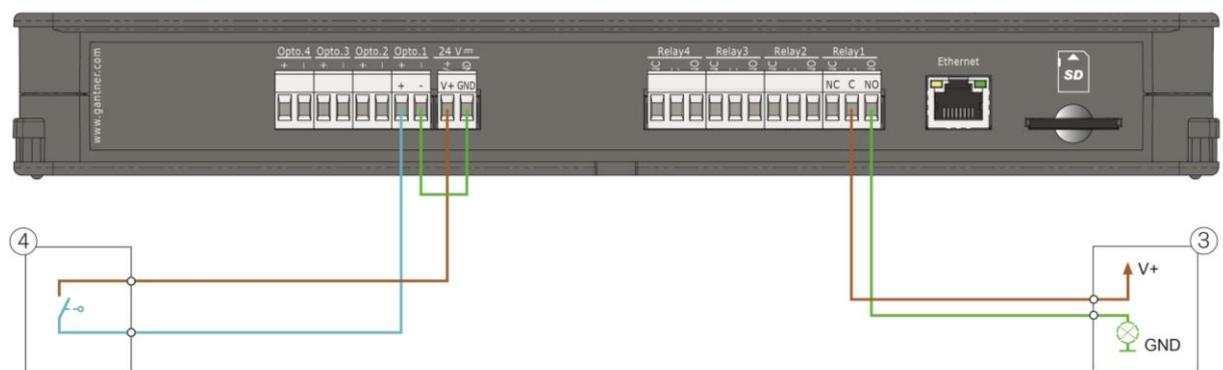
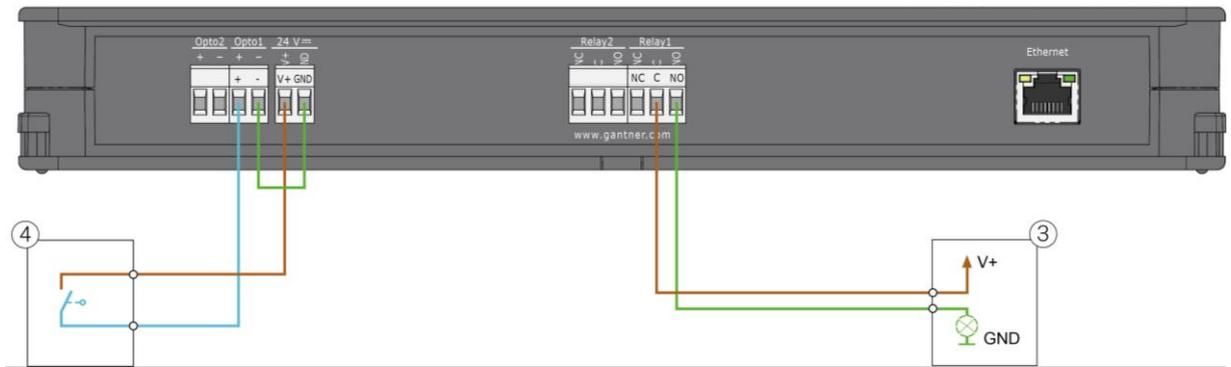

Figure 4.19 – Relay and optocoupler connection example for the GAT NET.Controller M 7020
Figure 4.20 – Relay and optocoupler connection example for the GC7.2000 M (lite)
Figure 4.19 and Figure 4.20 provide an example of how an external device (3) with its own power supply can be connected to the relay output and also an example of how an external device (4) can be connected to the optocoupler input.